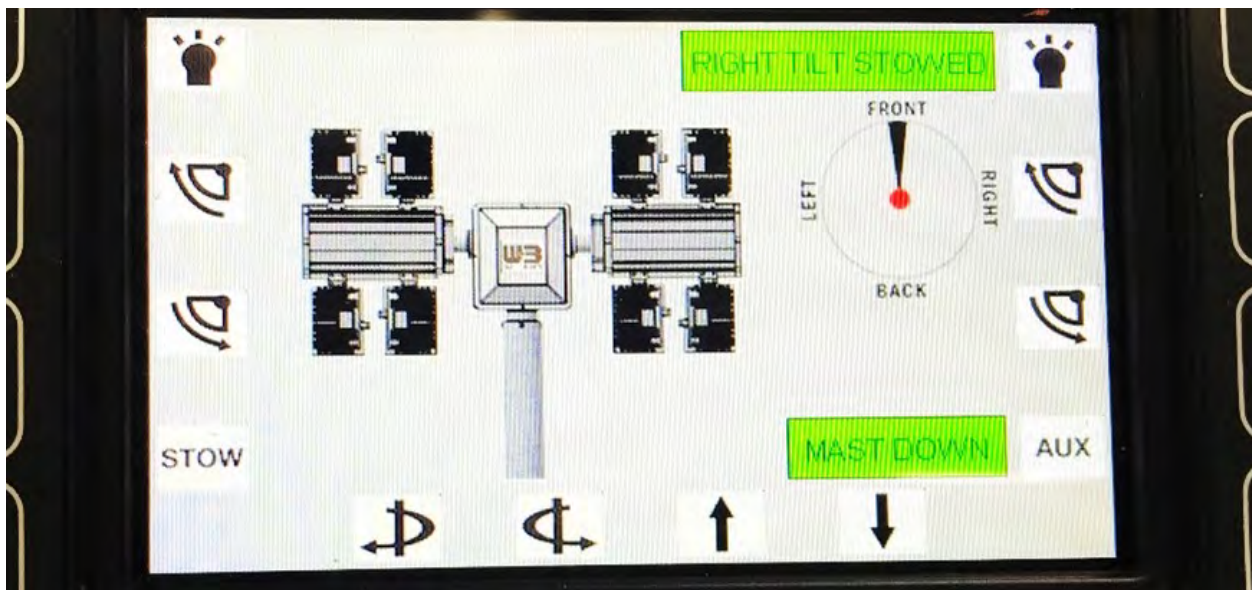

Figure 6-8 RCP/Mast Control Screen
1. Press and hold "Mast Up" until the mast is at 90°. The software will automatically stop the mast from tilting any further. When the mast has reached 90°, the Tilt Control screen will switch to the RCP/Mast Control screen (Figure 6-8). Once this screen is visible, the RCP functions will be available.